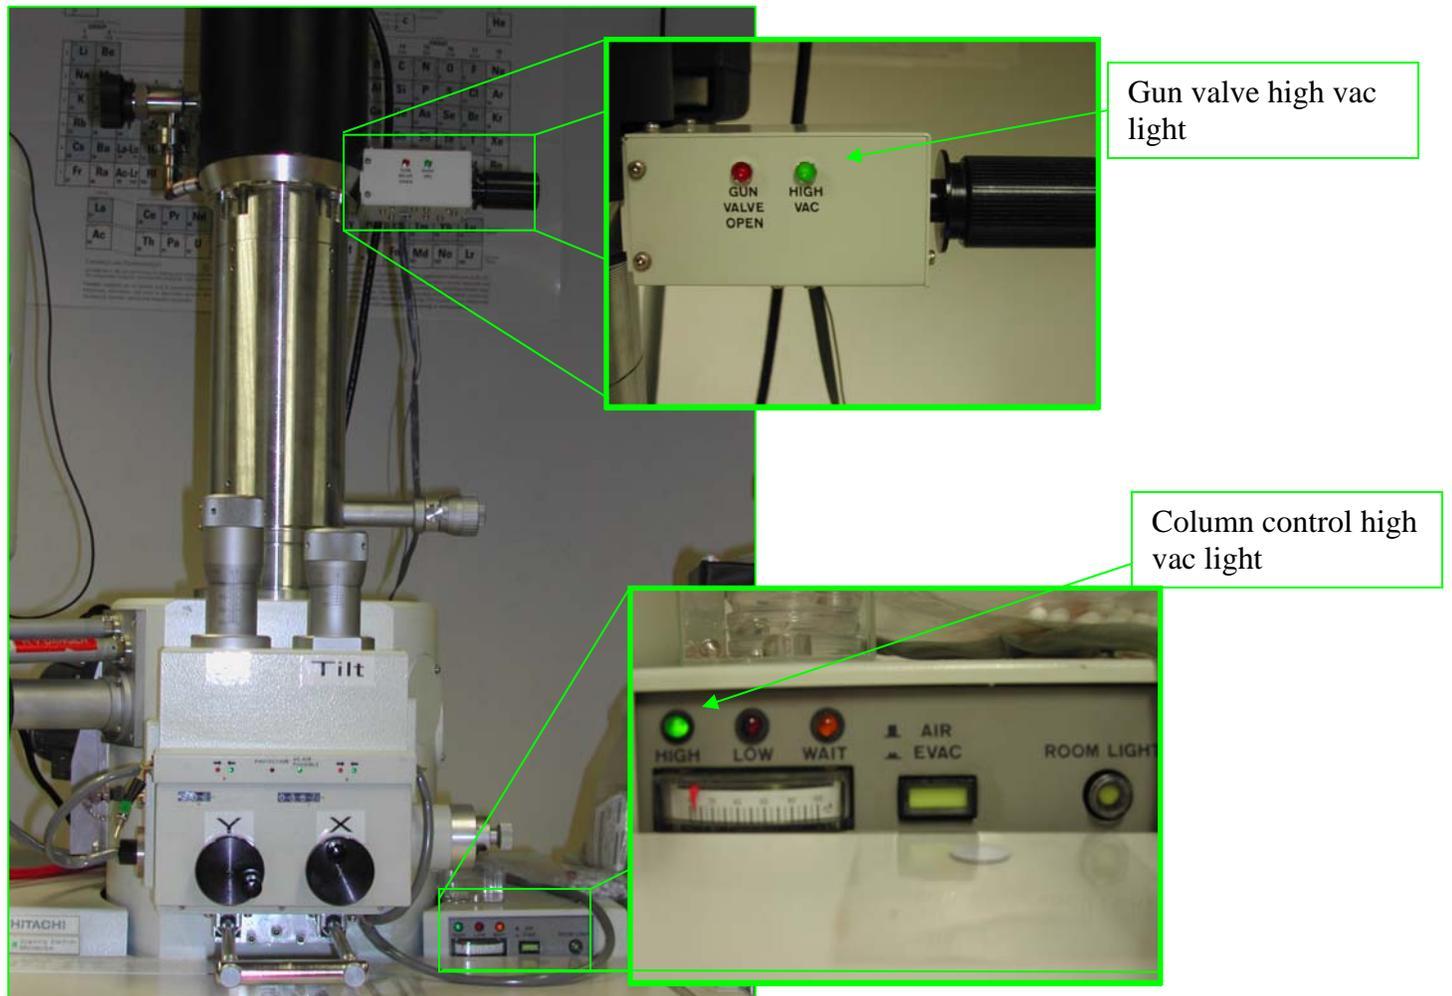

Figure 3
2. Make sure the gun valve is in the closed position (Figure 3).